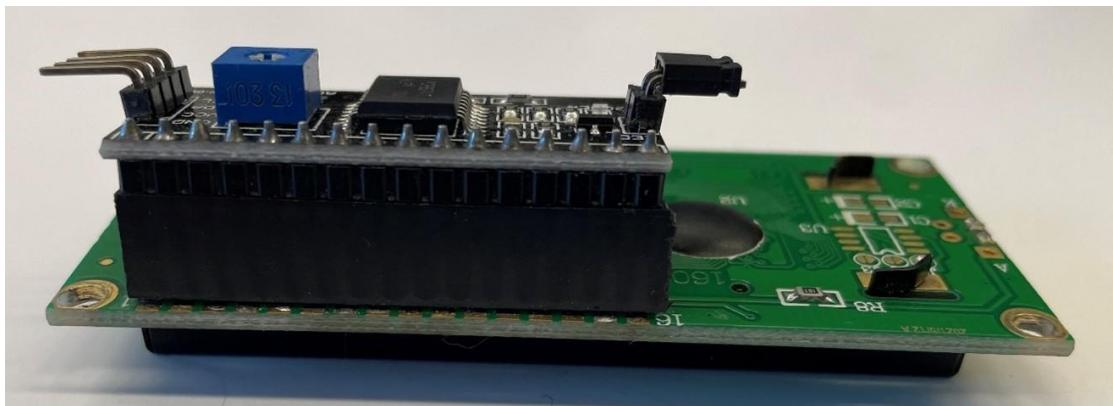

Figure 1.4- I2C LCD Assembly
- 3) Connect the I2C adapter to the LCD screen (Figure 1.4).